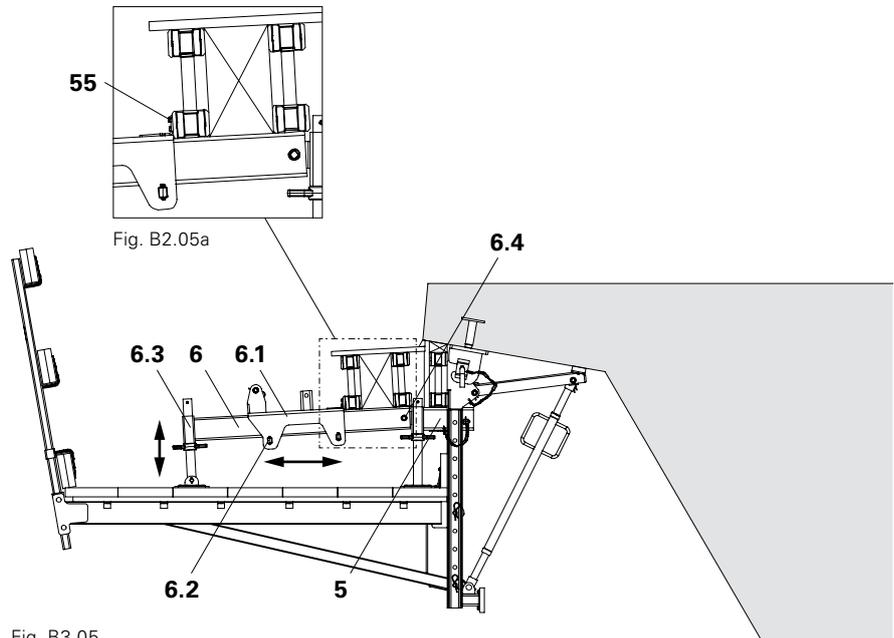

Fig. B3.05
1. Fix the Formwork Support VGK (6) to the Formwork Fixing VGK 2 (5) with bolts (6.4).
3. Fix slab formwork to the guide carriage (6.1) by means of 2 Torx 6 x 60 (55) respectively.
5. Fix both wedges (6.2) on the guide carriage (6.1) using a sledge hammer (approx. 5 kg). (Fig. B3.05 + B2.05a)